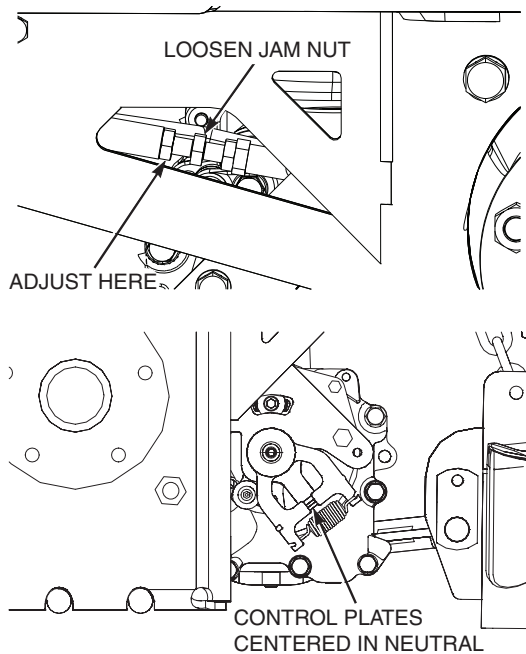

Figure 6-2. Steering Control Linkage Adjustment
6. To adjust the RH side, make sure the control levers are in the neutral lock position. Then remove the wheel, loosen the jam nut on the control arm, and adjust the control rod until the control plates on the transaxle are centered in neutral. See Figure 6-2
7. Tighten the jam nuts and repeat for the LH wheel. See Figure 6-2.